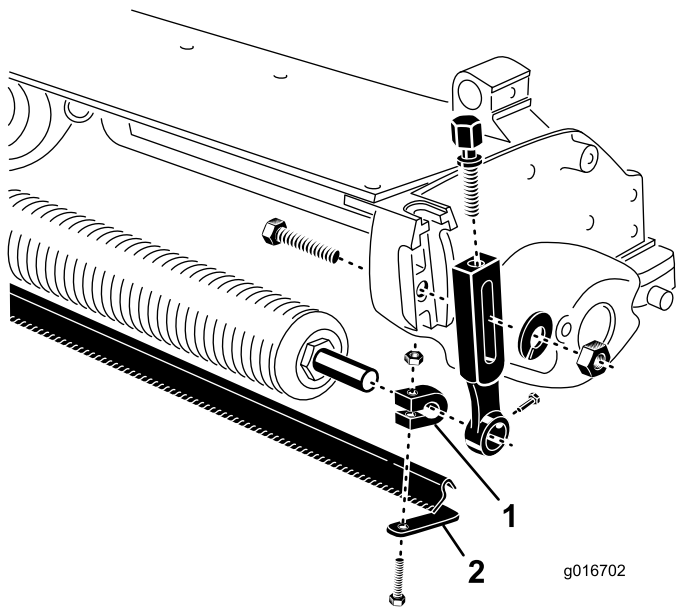

Figure 2
5. Loosely install a capscrew and nut onto each clamp (Figure 2). Do not tighten.
6. Insert a shaft clamp onto each end of the roller shaft (Figure 2).
9. Position the brush between the front roller and the cutting unit as shown in Figure 2.